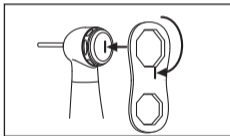

Fig. 40
- ⑧ Attach and tighten the head cap by hand. Then tighten it firmly with the head cap wrench (Fig. 40).
- ⑨ Clean and sterilize the handpiece after replacing the cartridge.